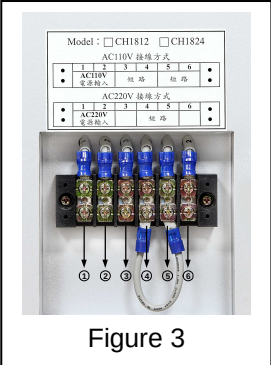

Figure 3
- 6.2.1 Main Voltage is 110VAC. (Figure 3)